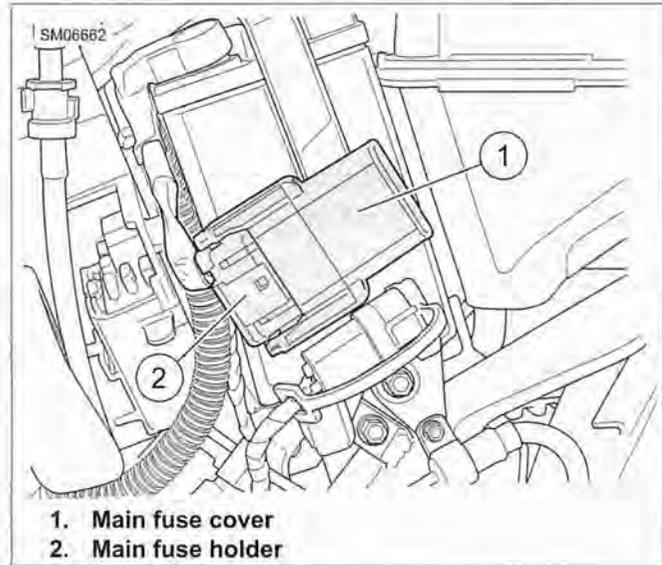

Figure 6-11. Main Fuse and Holder
2. See Figure 6-11. Remove the main fuse. See 6.34 MAIN FUSE.